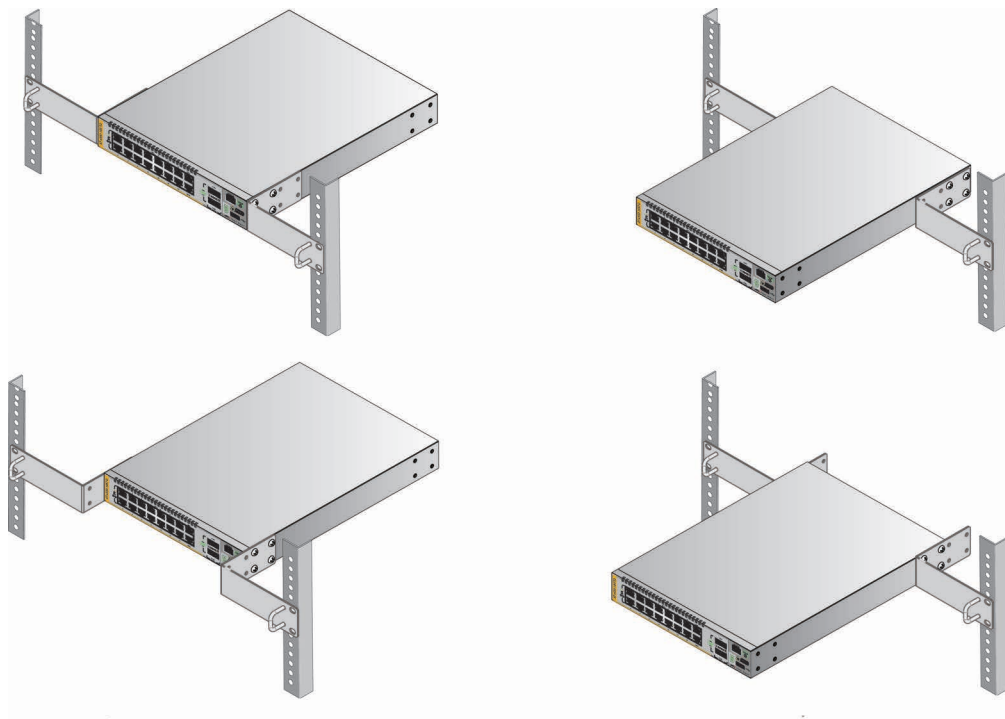
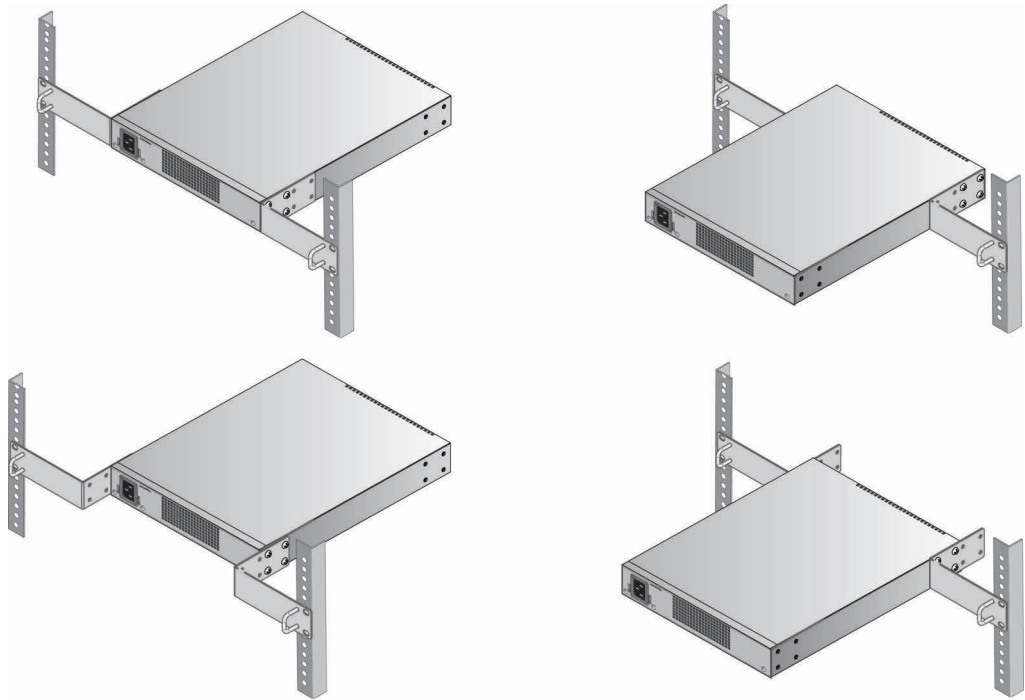
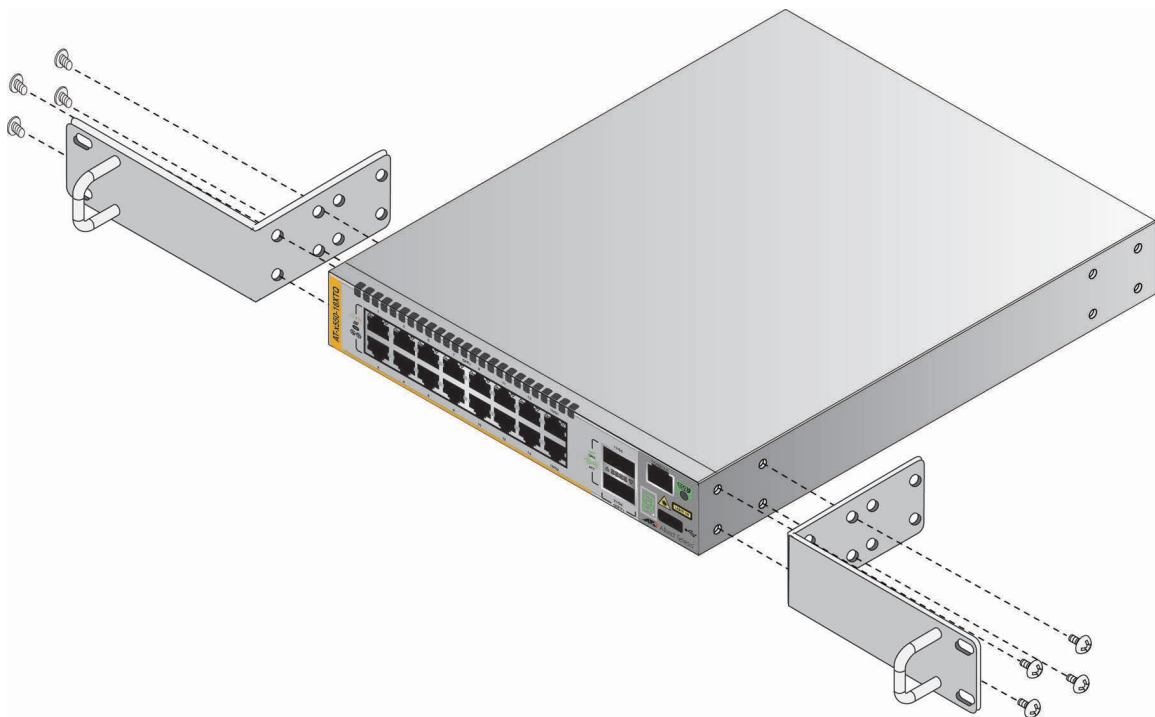

Figure 38. Switch Orientations with the Front Panel Facing the Front of the Equipment Rack
Figure 39. Switch Orientations with the Rear Panel Facing the Front of the Equipment Rack
Figure 41. Attaching the AT-RKMT-J14 Brackets to the Switch
You can use the different sets of holes on the switch and brackets to install the switch in the equipment rack in a variety of orientations. You can install it with the front panel flush with, extending in front of, or recessed behind the front of the equipment rack. The illustrations in Figure 38 show the switch orientations with the front panel facing the front of the equipment rack.
You can also orient the switch with the rear panel facing the front of the equipment rack. Refer to Figure 39.
3. Attach the two brackets to the sides of the switch in the selected position, using the eight M4x6mm screws included with the unit. (Refer to Figure 38 on page 94 and Figure 39 on page 95.) The illustration in Figure 41 shows the installation of the brackets such that the front panel of the switch is even with the front of the equipment rack.